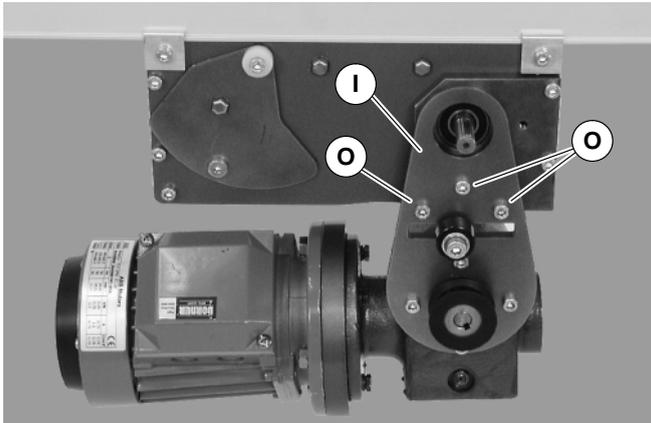

Figure 7
- Attach mount assembly (I of Figure 7) with mounting screws (O). Install long screws on bottom. Tighten screws to 9 Nm.